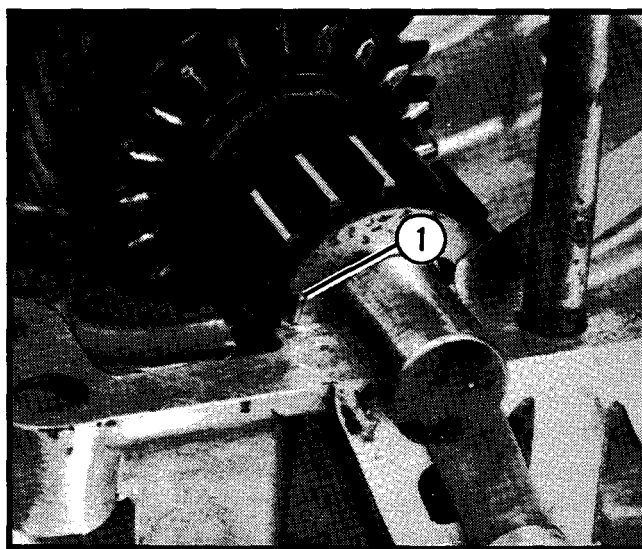
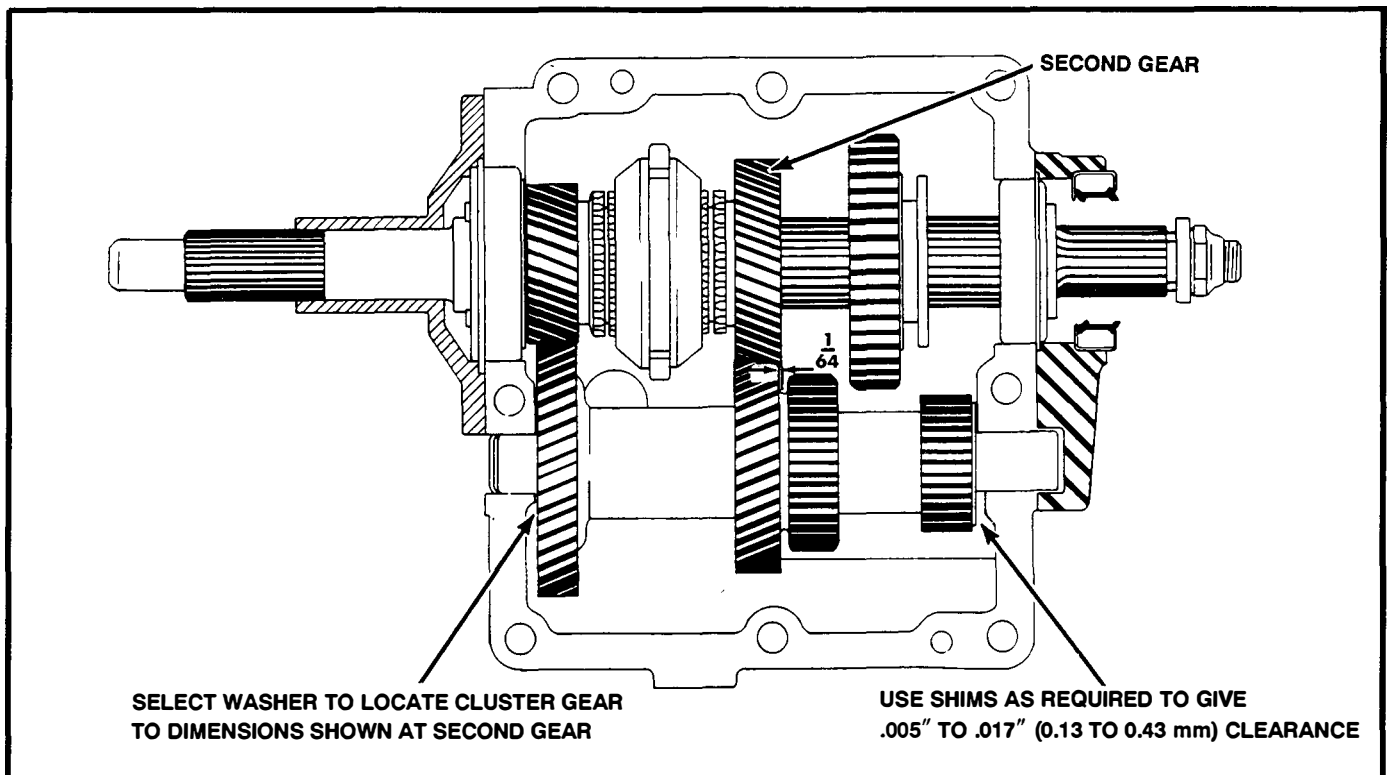

Figure 8.
Figure 9.
4. A thrust washer must be used on each end of the cluster gear. Select thrust washers listed below to satisfy clearance and location of the cluster gear shown in Figure 9. The thrust washer is keyed to the case by a protruding tab. Tabs on the thrust washers must be positioned as shown in Figure 8.